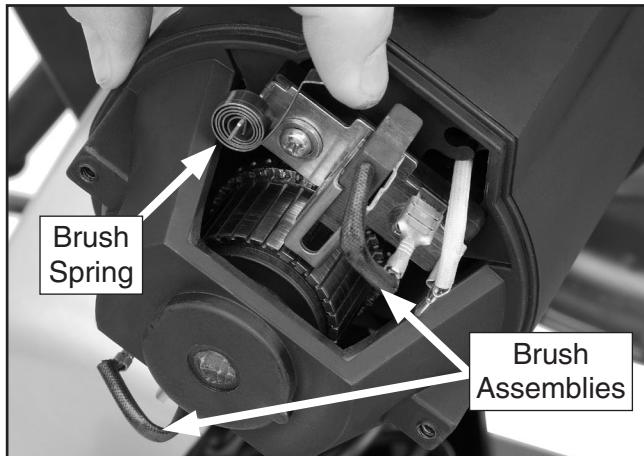

Figure 32. Brush removal.
3. Pull back the brush springs and remove both brush assemblies (**Figure 32**).